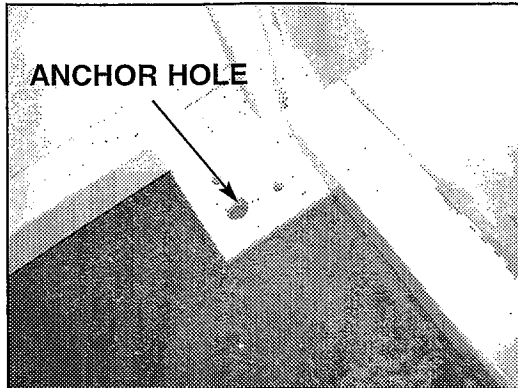

Figure 18
13. Use minimum or 3/8" diameter anchors in all four corners (inside lift under carriage.) See Figure 18.